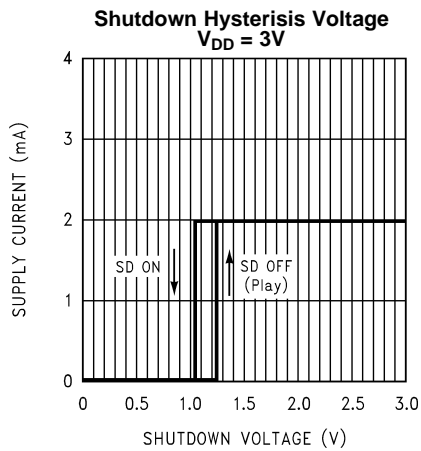
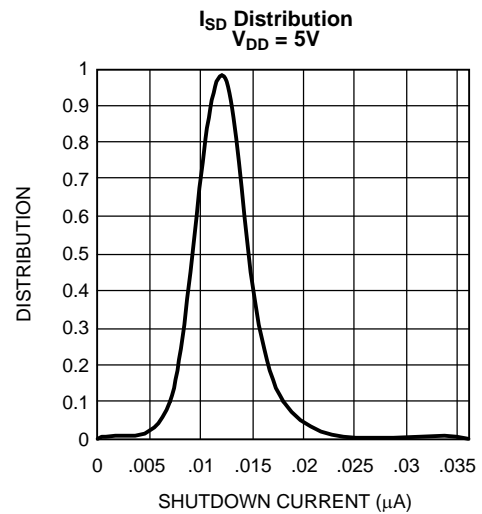

Figure 29.
Figure 30.
- (1) All voltages are measured with respect to the GND pin unless otherwise specified.
- (2) Absolute Maximum Ratings indicate limits beyond which damage to the device may occur. Operating Ratings indicate conditions for which the device is functional but do not ensure specific performance limits. Electrical Characteristics state DC and AC electrical specifications under particular test conditions which ensure specific performance limits. This assumes that the device is within the Operating Ratings. Specifications are not ensured for parameters where no limit is given, however, the typical value is a good indication of device performance.
- (3) Datasheet min/max specifications are specified by design, test, or statistical analysis.
- (4) Typicals are measured at  $25^\circ C$  and represent the parametric norm.
- (5) Limits are specified to AOQL (Average Outgoing Quality Level).
- (6) See  $I_{SD}$  distribution values shown in the  $I_{SD}$  Distribution curves,  $V_{DD} = 5V$  and  $V = 3V$ , (Figure 29 and Figure 30, respectively) shown in the Typical Performance Characteristics section.
- (4) Typical values are measured at  $25^\circ C$  and represent the parametric norm.